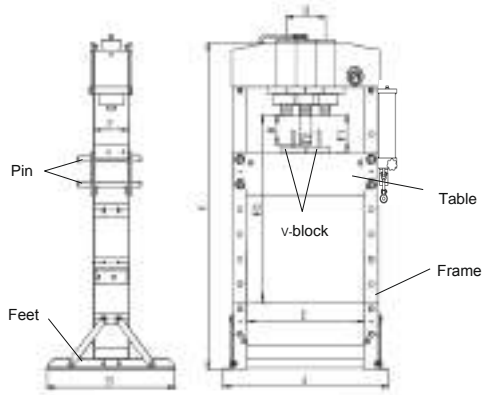

Fig.02
- The feet are fixed to the chassis using the screws provided, and the tables to the two B axes of Fig.02 which have previously been positioned on the outlets of the columns according to the chosen work height Fig.02. Attach the base section and support to left and right connecting plate using bolt ,washer, lock washer and nut.